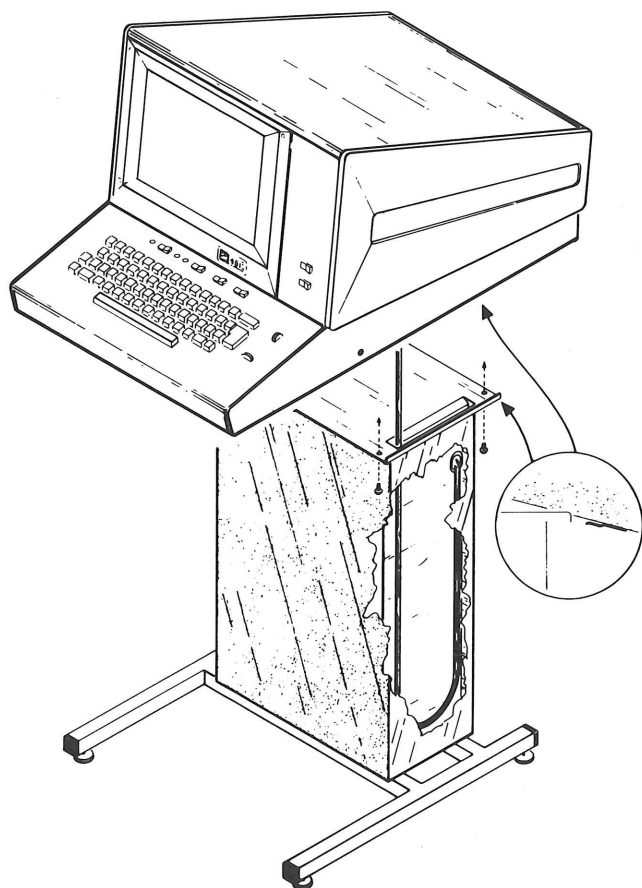

Fig. 1-2. Display Unit Mounting.
2. Lift the display unit over the pedestal as shown in Fig. 1-2.